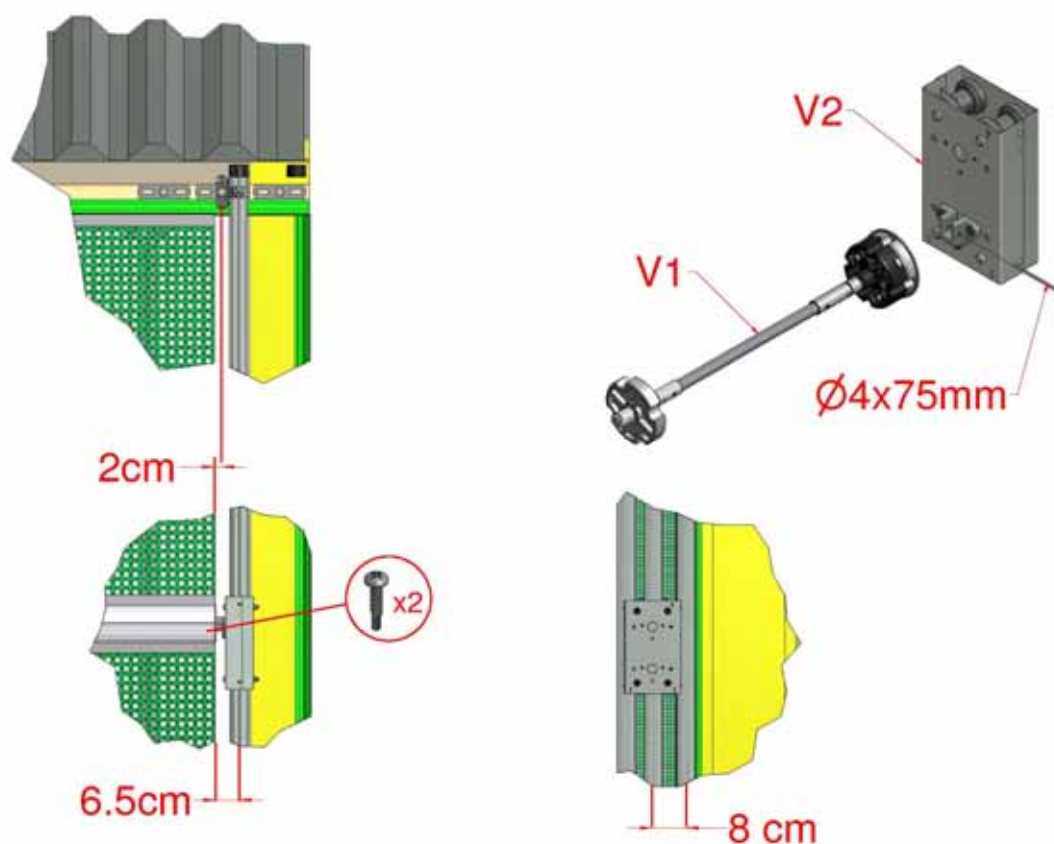

Figure 29, Free End trolley Box
- 6.1 To fit the optional free end Trolley Box fit the additional Face Bracket(s) (E1) to the Free End, see Section 2.1. The end of the Middle Tube needs to finish 2cm from the centre of the upper Face Bracket (E1) or 6.5cm from the centre of the Torque Tube as in Figure 29.
- 6.2 For Face-Face installation pre-drill the holes into the floor for fixing so that the Torque Tube is centred 8 cm from the centre of the inner Control Tube, Figure 29. Slide the Free End Shaft into the end of the Middle Tube and secure with two M4.2x19 self drilling screws.